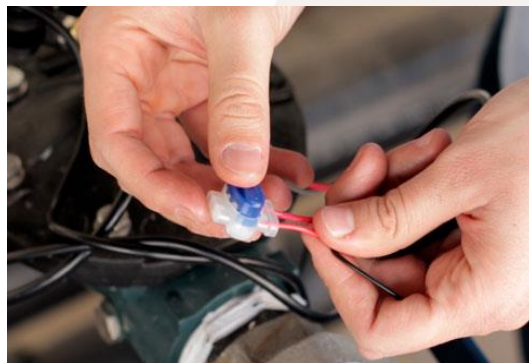

Figure 5. Connection of the positive polarity by means of a watertight connector.
**Note:** We recommend the use of watertight connectors (Figure 5) (5).